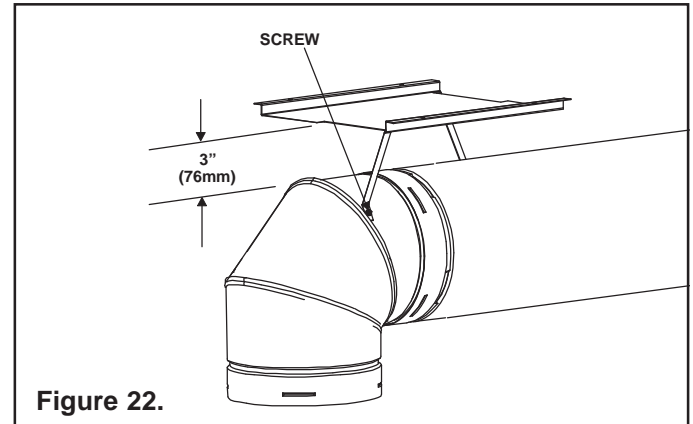

Figure 22.
WARNING: MAJOR U.S. BUILDING CODES SPECIFY MINIMUM CHIMNEY AND/OR VENT HEIGHT ABOVE THE ROOF TOP. THESE MINIMUM HEIGHTS ARE NECESSARY IN THE INTEREST OF SAFETY. SEE FIGURE 22 FOR MINIMUM HEIGHTS, PROVIDED THE TERMINATION CAP IS AT LEAST TWO (2) FEET FROM A VERTICAL WALL AND 2-FEET BELOW A HORIZONTAL OVERHANG.